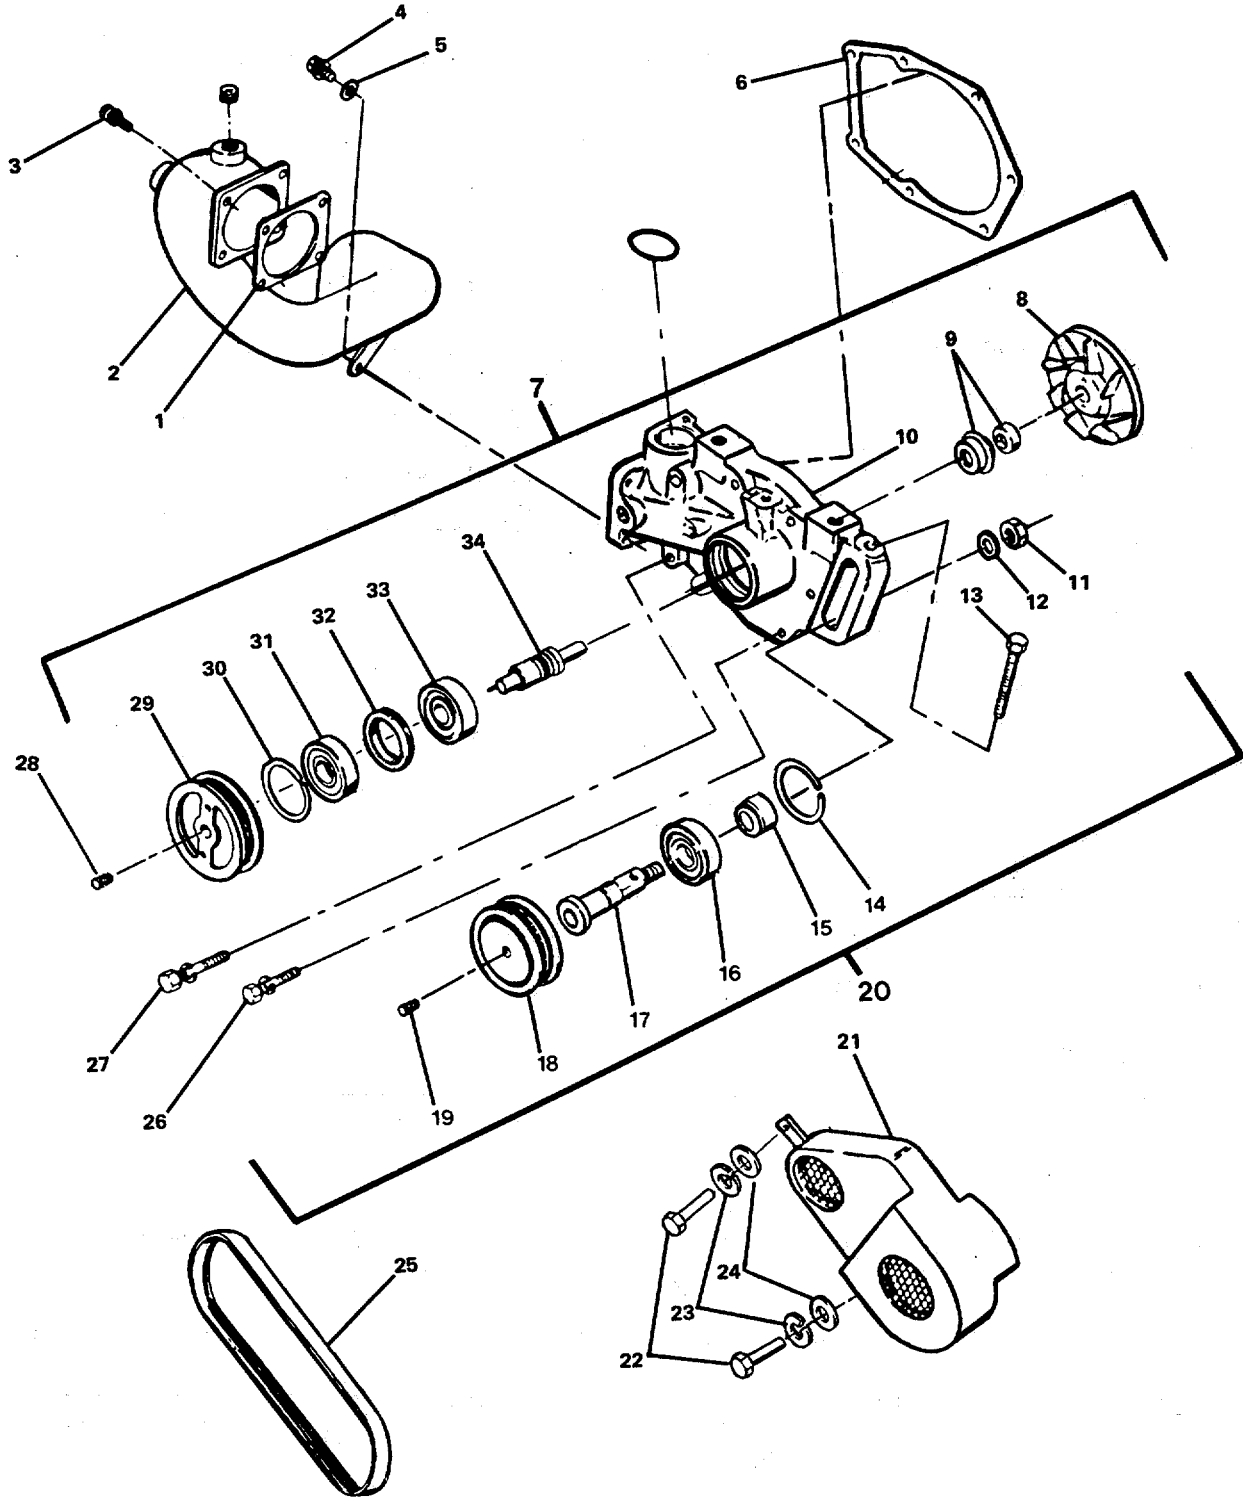
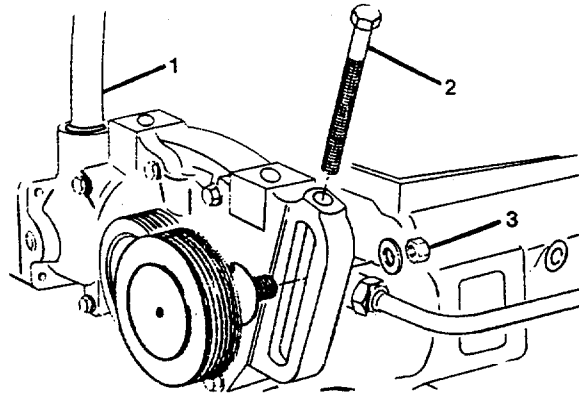
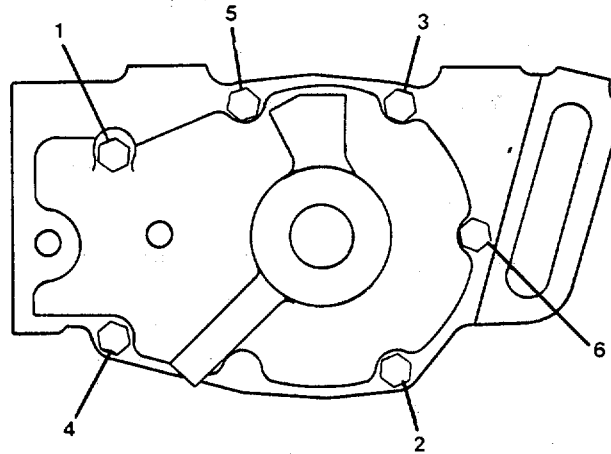

FIGURE 2-14. *Water Pump and Idler Group.*
FIGURE 2-15. *Water Pump Belt Adjustment.*
FIGURE 2-16. *Water Pump Torque Sequence.*
- a. Remove the water pump belt guard (21, Figure 2-14). Refer to Removal step in this procedure.
- b. Remove the water pump V-belt (25). Refer to Removal step in this procedure.
- c. Turn the groove pulley (18) by hand to check ease of rotation. If the pulley (18) does not turn easily, replace the belt tension adjusting device (20).
- b. Loosen the idler shaft nut (3, Figure 2-15).
- d. Turn the capscrew (2) to adjust the belt tension.
- (1) 150 to 160 ft-lb (200 to 220 N•m) for new belt.
- (2) 70 to 120 ft-lb (45 to 165 N•m) for used belt.
- f. When the belt is tight, tighten the idler shaft nut (3) to 50 ft-lb (67.7 N•m) torque.
- g. Loosen the capscrew (2) 1/2 turn to prevent V-belt breakage during operation.
- h. Install the water pump belt guard (21, Figure 2-14). Refer to Replacement step in this procedure.
- b. Remove the two capscrews (22, Figure 2-14), lockwashers (23) and flat washers (24) and remove the water pump belt guard (21).
- c. Loosen the idler shaft nut (11).
- d. Turn the capscrew (13) counterclockwise to release tension and remove the water pump V-belt (25). Remove the nut (11) and washer (12) to remove the adjusting device (20). Remove the capscrew (13) from the water pump body (10).
- e. Remove the rim-clenching clamp (16, Figure 2-9) and disconnect the tube connection (1, Figure 2-15). Refer to paragraph 2-28.
- f. Remove the four machine screws (3, Figure 2-14) and the assembled washer screw and flat washer (4, 5) and remove the engine water outlet (2). Discard the gasket (1).
- g. Remove the six capscrews (26 and 27) from the water pump body (10).
- a. Disassemble and replace adjusting device (20, Figure 2-14) parts as follows:
- (1) Remove the machine thread plug (19) and remove the groove pulley (18).
- (2) Remove the retainer ring (14), the spacer ring (15), and annular ball bearing (16) from the idler shaft (17).
- b. Clean all adjusting device (20) parts to be reused before assembly.
- c. Assemble the adjusting device (20) parts as follows:
- a. Ensure gasket surfaces are clean on the body (10, Figure 2-14) and engine.
- b. Use new gasket (6) and install the water pump (7) to the engine with capscrews (26, 27). Use new gasket (1) and connect the engine water outlet (2) to the body (10) with screws (3). Do not tighten screws until all have been installed.
- c. Tighten the capscrews (26, 27) in the sequence shown in Figure 2-16 to the following values.
- (1) Tighten to 10 ft-lb (13.5 N•m) torque.
- (2) Tighten to 20 ft-lb (27.1 N•m) torque.
- (3) Tighten to 35 ft-lb (47.4 N•m) torque.
- d. Install washer (5, Figure 2-14) and screw (4).